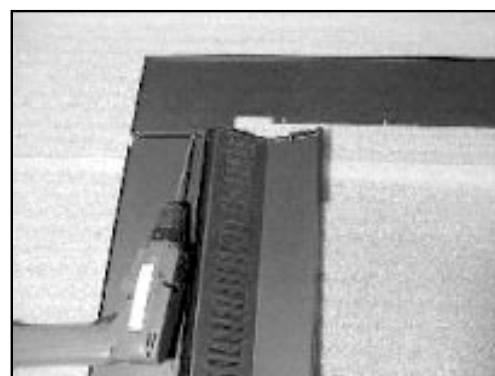

Figure 22.6
4. Align top panel to side panel setting clearance hole over screw head in side panel/curtain assembly. Install (2) 8-32 x 3/8 inch screws through holes in side panel into top panel. **Figure 22.6**. Complete for both sides.